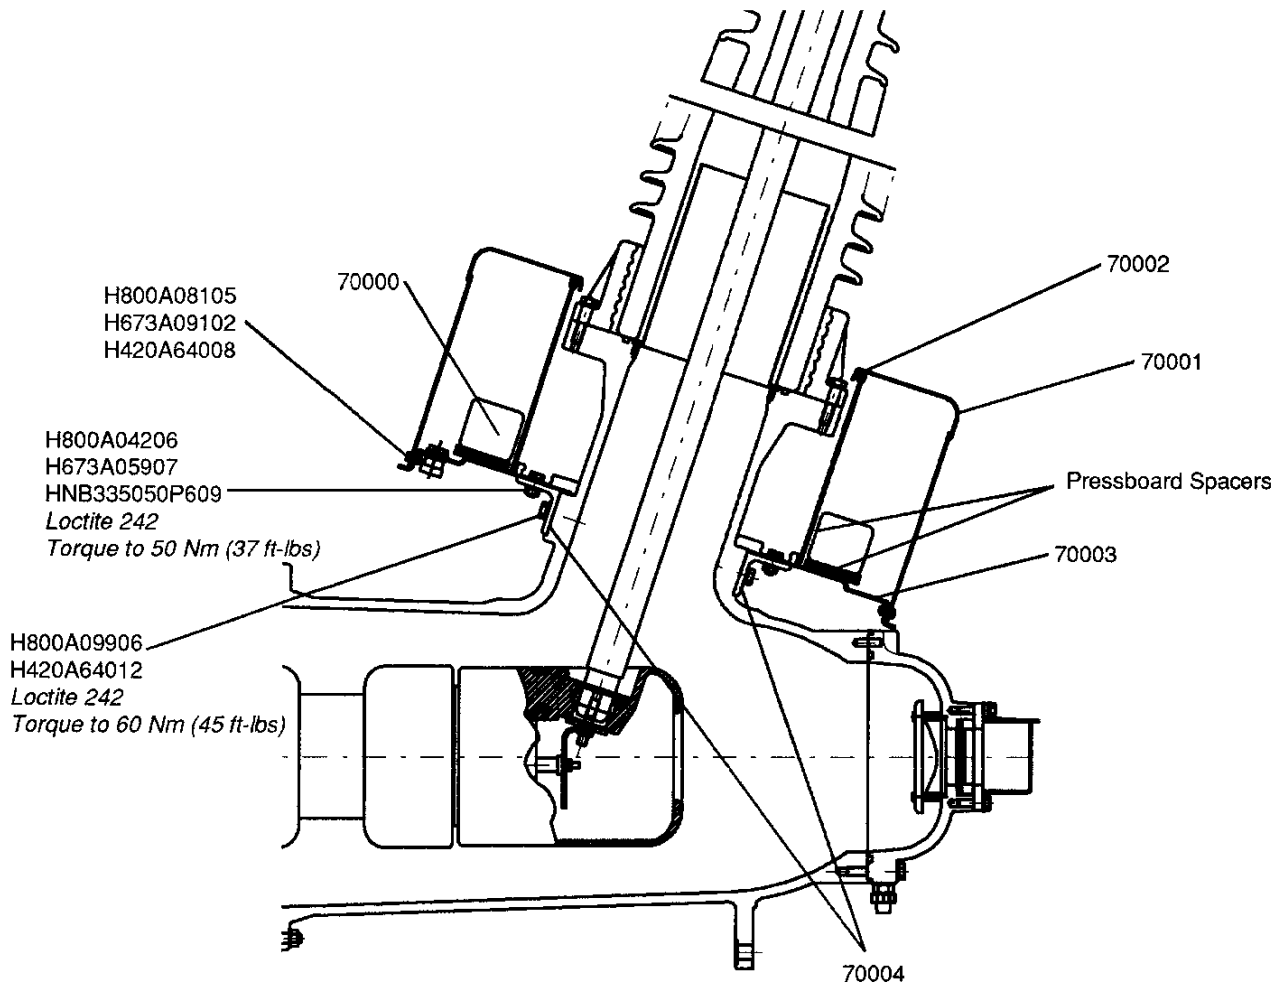

Figure 1
2. While lowering the CT in place, install the appropriate number of pressboard spacers (Fig. 1) between the CTs to attain the following approximate gap clearances:
**Pressboard spacers must be installed to ensure that the CTs are isolated from the CT protective cover 70001 and bottom support 70003 (Fig. 1).**
When re-installing the CT protective cover 70001 (Fig. 1), be careful not to damage the insulating seal 70002 around the lip of the bottom support 70003. This seal serves both as a weather seal and an insulating barrier. Without this insulating barrier, the CT protective cover would form a continuous conducting loop around the CTs, thereby shorting them and jeopardizing CT accuracy.
1	Figure 1